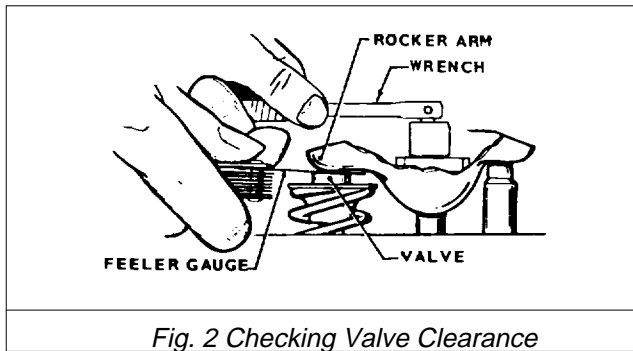

Fig. 2 Checking Valve Clearance
- (4) After allowing engine to cool, check the clearance with a feeler gauge between the rocker arm and the valve (See Fig. 2). Increase or reduce the clearance until the proper gap is established. Correct valve clearance is .011 in. intake and .008 in. exhaust.
Use Onan tool #420B272 in a drill press (Fig. 2) to remove each valve seat. Adjust the tool to cut 1/64 in. from the edge of the seat. Oil the pilot to prevent it from seizing in the valve guide. Cut each seat down to a narrow ring on edges and bottom and break it out with a sharp tool. Be careful not to cut into the counterbore bottom.